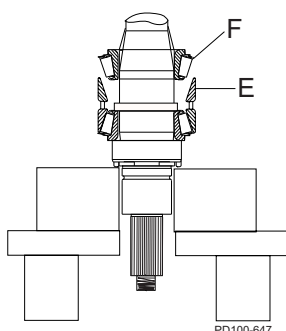

Figure 279 - Install Upper Cup & Upper Cone
7. Place the upper cup (Figure 279, item E) on top of the outer spacer.
8. Lubricate the front bearing area of the shaft with anti-seize, and slip the bearing over the shaft with the roller radius facing up (Figure 279, item F). Press it onto the shaft and into the upper cup (Figure 279, item E).